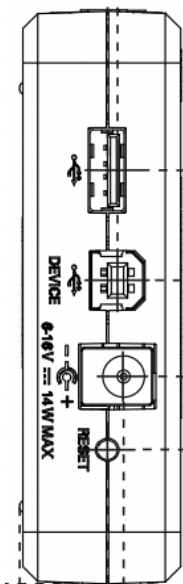

Figure 1. myRIO
3. Connect the USB cable Type B end to the National Instruments myRIO port labeled “DEVICE” and seen as the middle port in Figure 1. The other Type A end connects to the lab station computer. (Do not connect to the Type A top port on the myRIO.)
4. Connect the power adapter to the barrel connector also shown in Figure 1. The power light on the myRIO should now be illuminated blue.